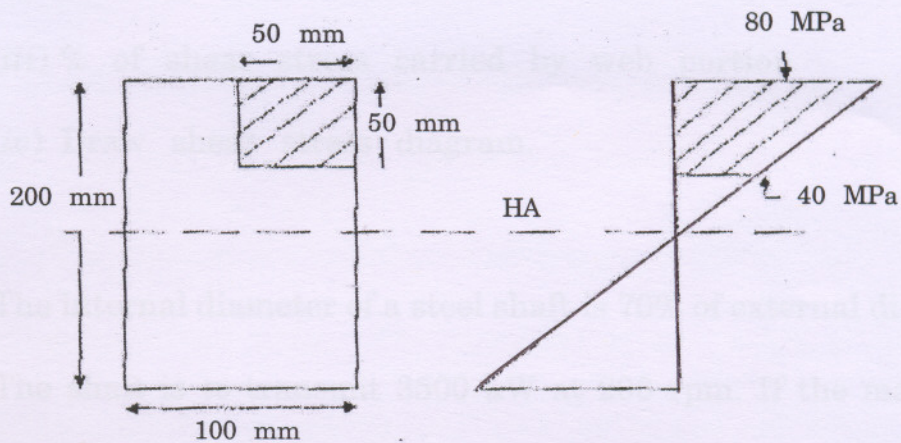

Fig. 1
- (b) Fig. 1 shows a rectangular section of a beam 100 mm wide and 200 mm deep. If the maximum bending stress is 80 MPa, determine (i) total force on the shaded area, (ii) moment of this force about NA. [6]